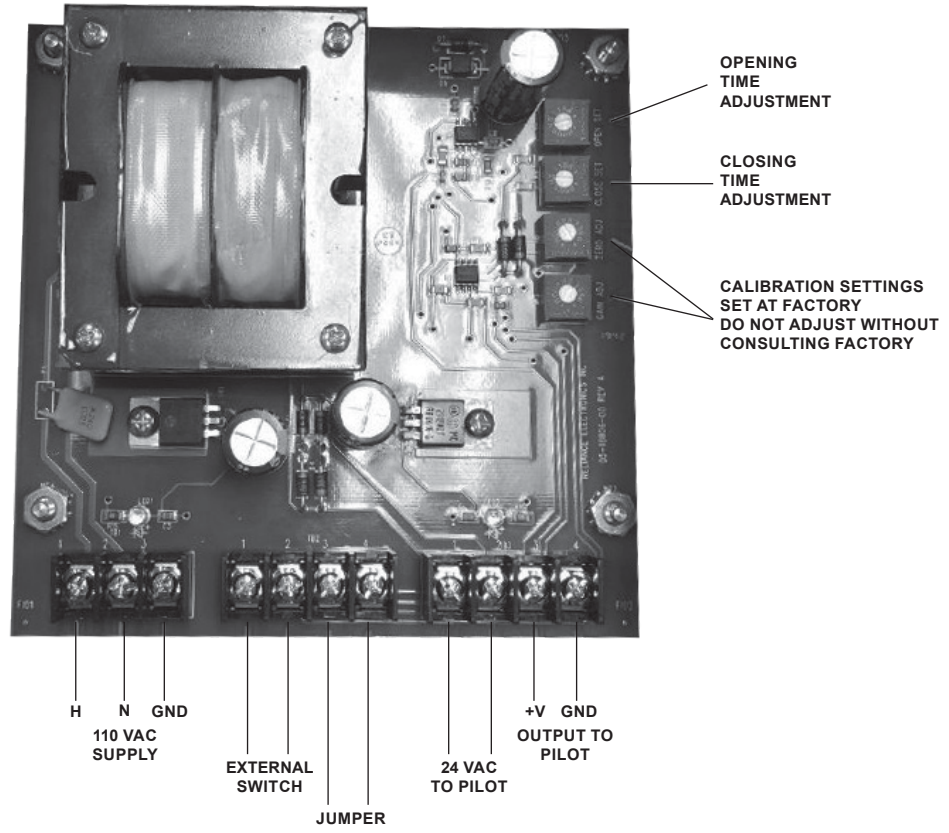

Figure 4. Recommended Installation of Type VH210 Regulator with Strainer
2. Open the ETC, and locate the setting controls for Start Up and Shut Down. See Figure 4.